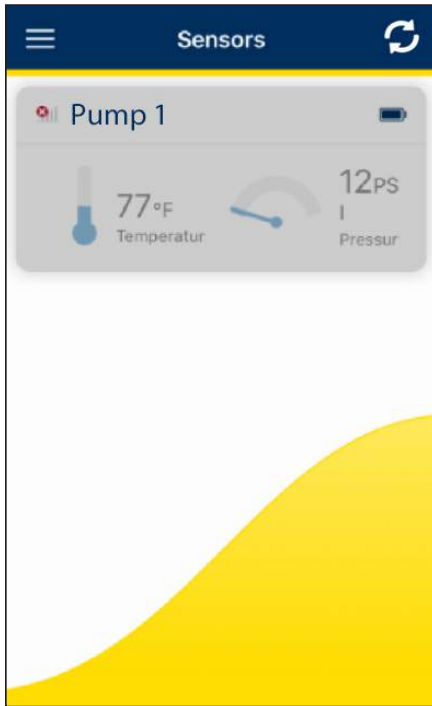

Figure 43
1. Swipe left on the selected sensor. The **Delete** option will appear (see figure 43).